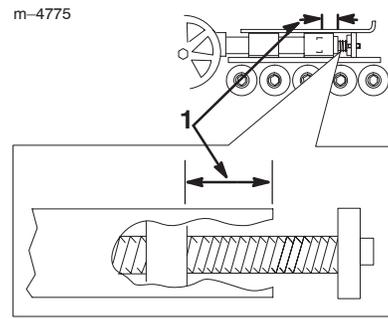

Figure 33
Check and adjust the track tension every 100 operating hours. There should be 2-3/4 inches (7 cm) between the tension nut and the back of the tension tube (Fig. 33). If not, adjust the track tension using the following procedure:
- Using a 1/2 inch drive socket (Fig. 36), turn the tensioning screw counter-clockwise until the distance between the tension nut and the back of the tension tube (Fig. 33) is 2-3/4 inches (7 cm).
- Turn the tensioning screw counter-clockwise until the distance between the tension nut and the back of the fork tube (Fig. 33) is 2-3/4 inches (7 cm).
17. Turn the tensioning screw counter-clockwise until the distance between the tension nut and the back of the tension tube (Fig. 33) is 2-3/4 inches (7 cm).